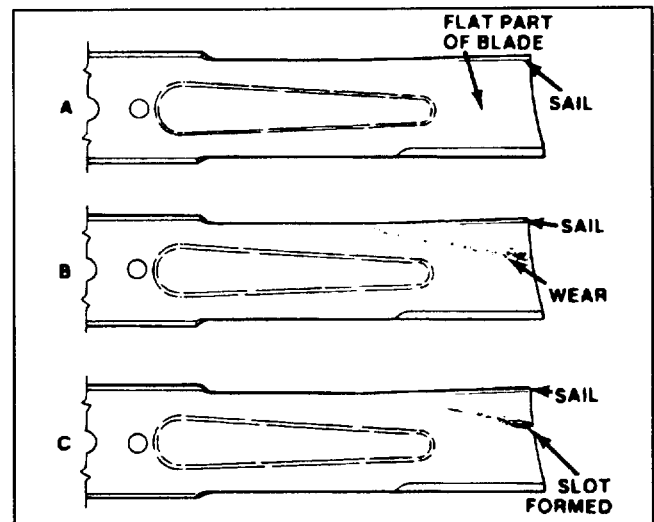

Figure 26
(Fig. 26–27)
2. Examine cutting ends of the blade carefully, especially where the flat and curved parts of the blade meet (Fig. 26–A). Since sand and abrasive material can wear away the metal that connects the flat and curved parts of the blade, check the blade before using the machine. If wear is noticed (Fig. 26–B), replace the blade: refer to Removing Cutter Blade.
If blade is allowed to wear, a slot will form between the sail and flat part of the blade (Fig. 26–C). Eventually a piece of the blade may break off and be thrown from under the housing, possibly resulting in serious injury to yourself or bystander.